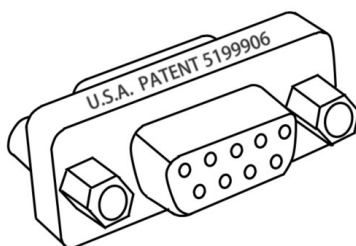

Figure 75
10) If you find that the data cable interface of the printer you purchased does not match the currency counter interface, you can connect it using the printer data cable adapter in the packing box provided by us (see Figure 75 below).